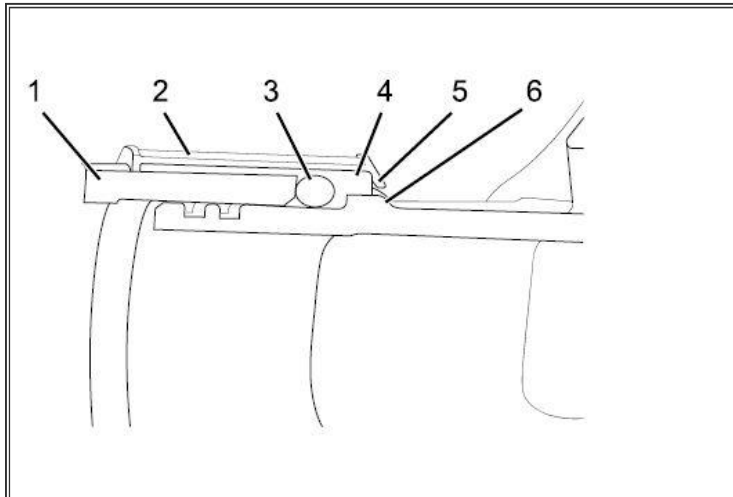

Figure 11: Exhaust Manifold Ring Seal Cross Section
Verify shield completely covers ceramic mat wrap, and ceramic mat wrap overlaps seal packing (Figure 11)
25. Install two shield halves with beveled flange (**Figure 11**, Item 5) covering seal packing (**Figure 11**, Item 3) end, and align shield joint with manifold midpoint.